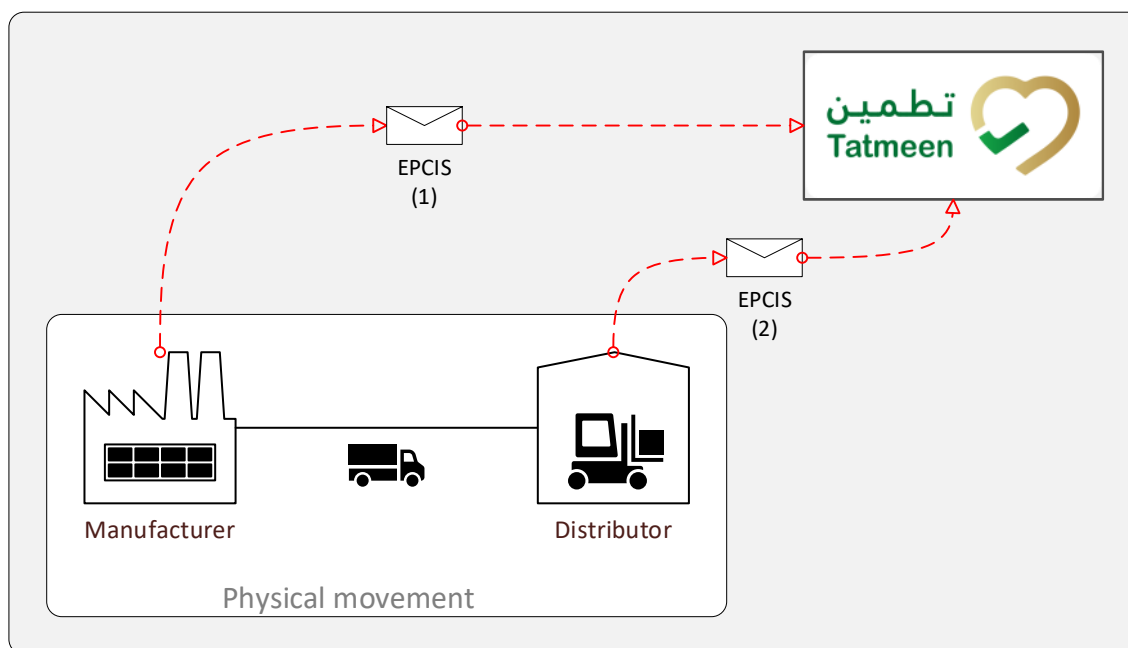

Figure 5 Processing Drugs from Local (Domestic) Manufacturers
This outline refers to Figure 5, above. Note that in the description below there is reference to a Local Sales Permit that is still not in place, however this illustrates the intent.
2. Once the Manufacturer receives the Local Sales Permit and has identified the top-level hierarchy items scheduled for UAE market release, then they must send a single EPCIS message ("EPCIS (1)" in Figure 5) containing the Local Sales Permit reference; commissioning, aggregation and shipping event for the full / partial shipment.
3. Once the local manufacturing EPCIS message is successfully sent to the Tatmeen solution, the products may be shipped from the manufacturer to the local UAE supply chain partner. Note that the EPCIS message ("*EPCIS(2)*" in Figure 5) is described in the Tatmeen Technical Guide for Logistics and is not described in this document.